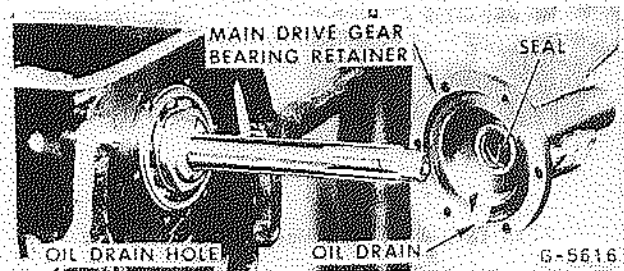

Fig. 16 - Removing Main Drive Gear Bearing Retainer
Remove six bolts from main drive gear bearing retainer (61) and remove retainer and gasket (60) as shown in Fig. 16.